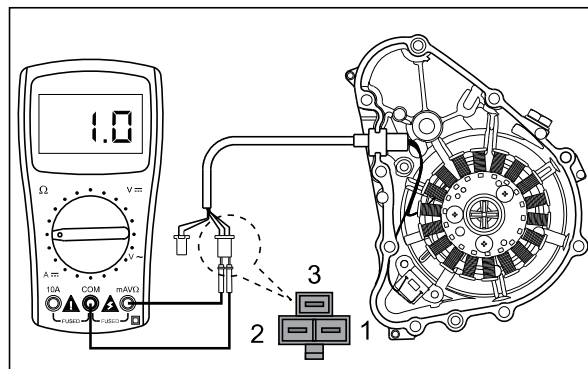

Fig. 5.45
- There are three yellow wires (Y) coming out of the stator assembly. Connect the pocket tester (+ve) lead to the first yellow wire (Y) and (-ve) lead to second yellow wire (Y) and measure the resistance. (Fig. 5.45)